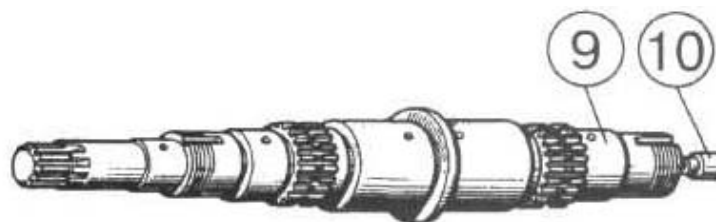
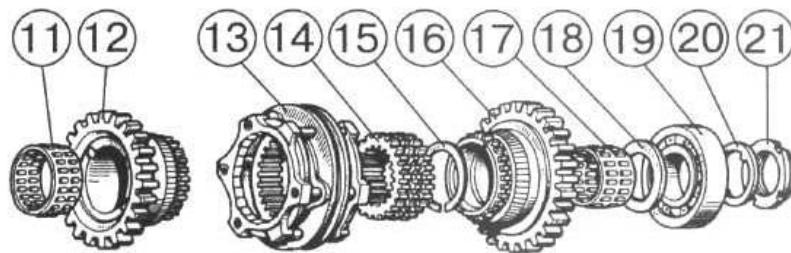

Figure 4.67
Figure 4.68
c) press bearing 19 (Figure 4.68) off shaft 9 (Figure 4.67), bearing 17 (Figure 4.68), gear 16, synchronizer 13.